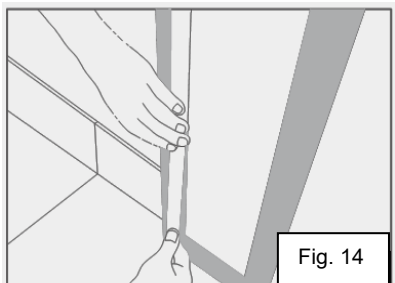

Fig. 14
- 9.4. Apply strips of masking tape to protect each side of the joint (fig.14).